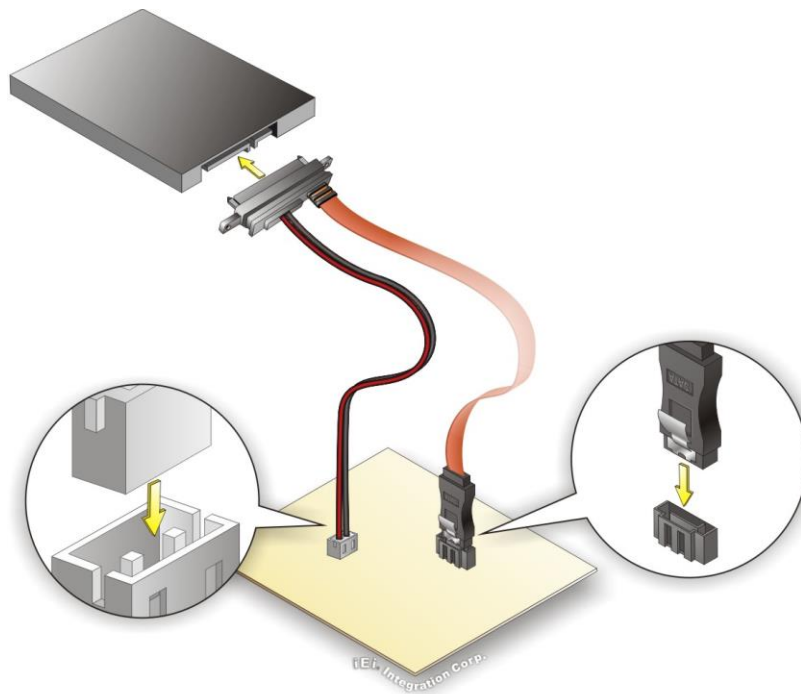

Figure 4-14: SATA Drive Cable Connection
- Step 2:** **Insert the cable connector.** Insert the cable connector into the on-board SATA drive connector and the SATA power connector. See **Figure 4-14**.